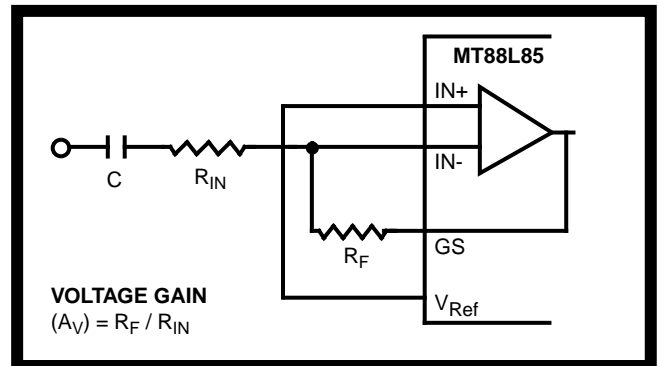

Figure 3 - Single-Ended Input Configuration
The input arrangement of the MT88L85 provides a differential-input operational amplifier as well as a bias source (V_{Ref}), which is used to bias the inputs at V_{DD}/2. Provision is made for connection of a feedback resistor to the op-amp output (GS) for gain adjustment. In a single-ended configuration, the input pins are connected as shown in Figure 3.